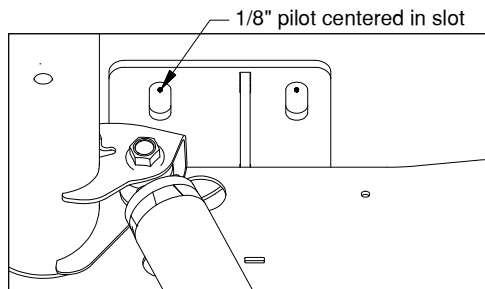

Figure C1: View looking up over the driver side frame.
1. **Check the hole locations.** Push side plates against the bottom of the bed. Hand tighten hardware so that the side plate is held in position. Look up through the oval slots in the side plate flanges and find the previously drilled 1/8" holes. The 1/8" pilot holes need to be aligned front to back in the center of the slots in the side plate flanges, see Figure C1. If the 1/8" holes are not centered within the slots, drill new pilot holes which are better centered in the slots.